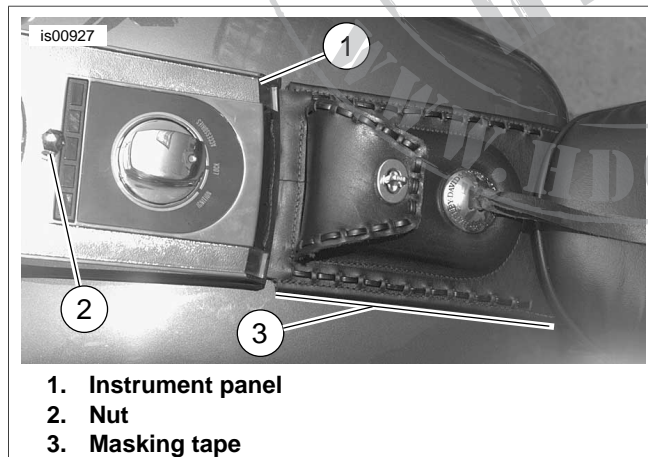
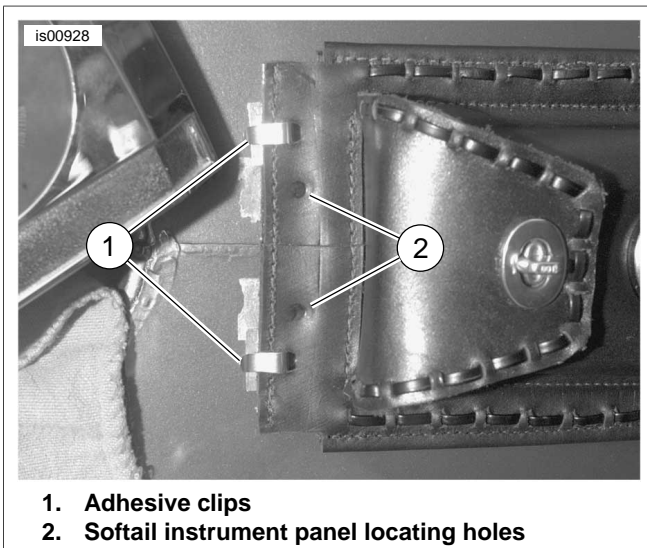
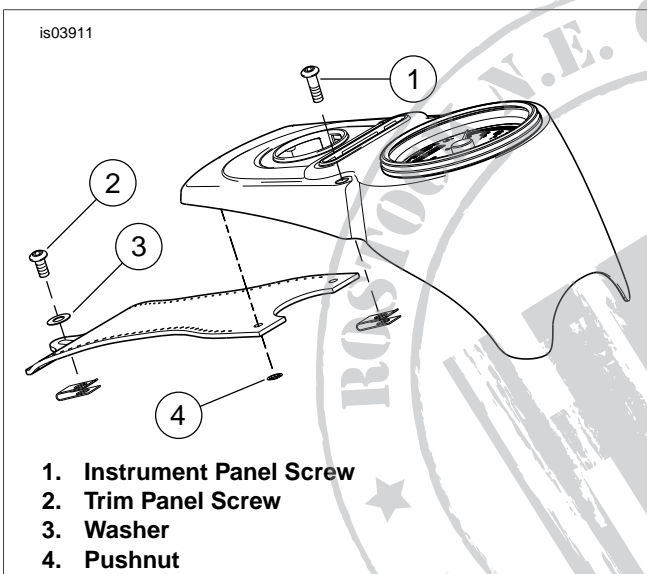

Figure 1. Leather Fuel Tank Panel Installed
Figure 3. Adhesive Clips At Front Of Panel
Figure 4. Tank Panel-2004 & Later Dyna Fitments
2. See Figure 1. Remove nut (2) securing instrument panel (1). Gently lift instrument panel up and turn it so stock fuel tank panel front end is uncovered.
7. See Figure 1. Install instrument panel (1) and tighten nut (2) to 8 ft-lb (11 Nm).
2. **1993-2003 Models:** Figure 1. Remove nut (2) securing instrument panel (1). Gently lift instrument panel up and turn it so stock fuel tank panel front end is uncovered. **2004 and later Models:** See Figure 4. Remove two screws (1) securing instrument panel.
10. See Figure 1. Align the leather fuel tank panel with the instrument panel (1). Mark the location on the fuel tank with masking tape (3) placed along the side of the tank panel. Also mark location of top edge.
11. Remove the instrument panel (1) from the tank.
12. See Figure 3. Install adhesive clips (1) on leather fuel tank panel and remove paper backing from adhesive pads.
14. **1993-2003 Models:** See Figure 1. Install instrument panel (1) to fuel tank and tighten nut (2) to 8 ft-lb (11 Nm).
2004 and later Models: See Figure 4. Install instrument panel using screws (1) to fuel tank. Tighten screws to 18-24 in-lb (2.0-2.7 Nm).
4. **1993-2003 Models:** See Figure 3. Remove O-ring securing rear end of stock leather fuel tank panel (note position of O-ring). Open metal tabs on adhesive clips at front end of stock leather fuel tank panel and remove stock tank panel.
2004 and later Models: See Figure 4. Remove lower mounting screw (2) and washer (3) and set aside to reuse. Lift instrument panel and carefully remove pushnuts (4)